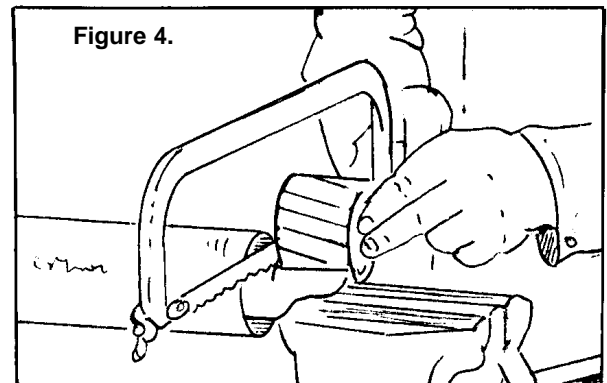

Figure 4.
3. If driveline must be cut to a shorter length, clamp driveline in a well padded vise to prevent damage to the shield. Cut off shield where marked. Using cut-off section of shield as a guide, cut shaft the same amount. (Figure 4.)